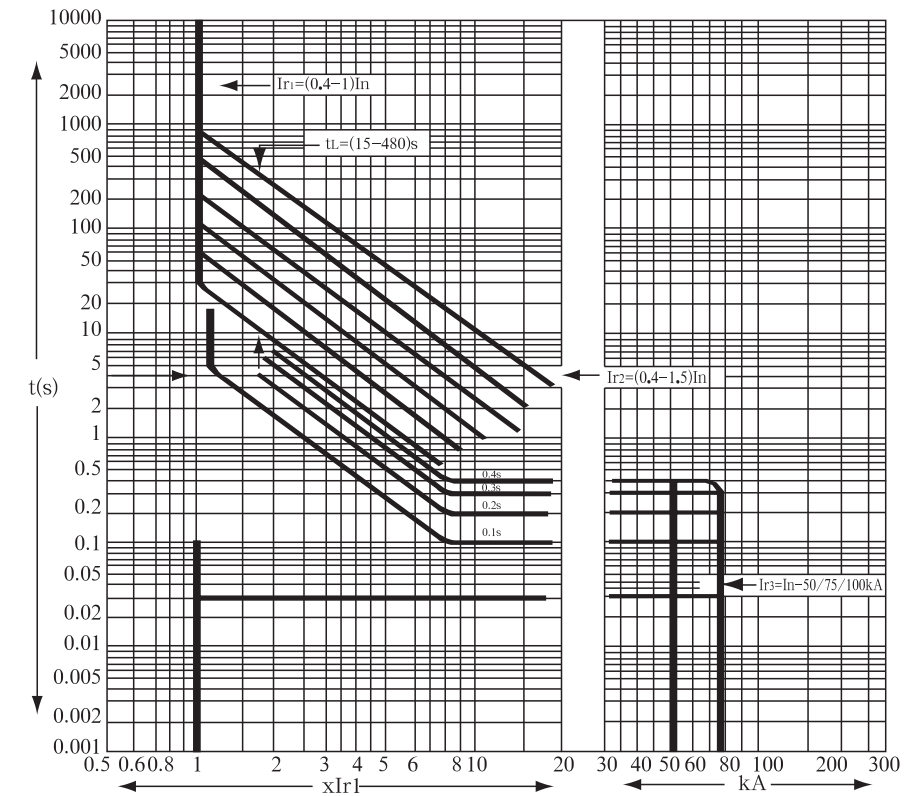
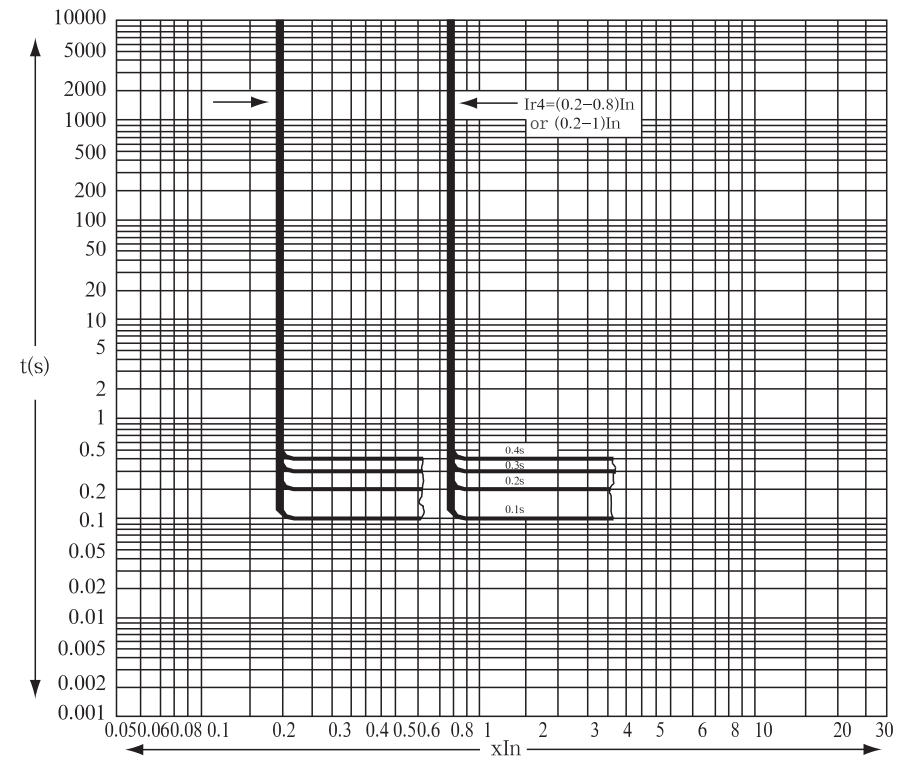

Figure 1
Figure 2
d. Figure 1 for overcurrent trip protection and Figure 2 for ground fault protection.